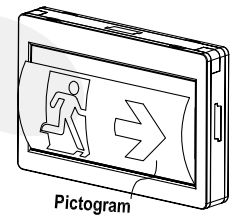

Fig 7
9. If pictogram direction assembled not suitable, pictogram can take out for change direction or replace pictogram, and then insert into the diffuser easily (See Fig 7).